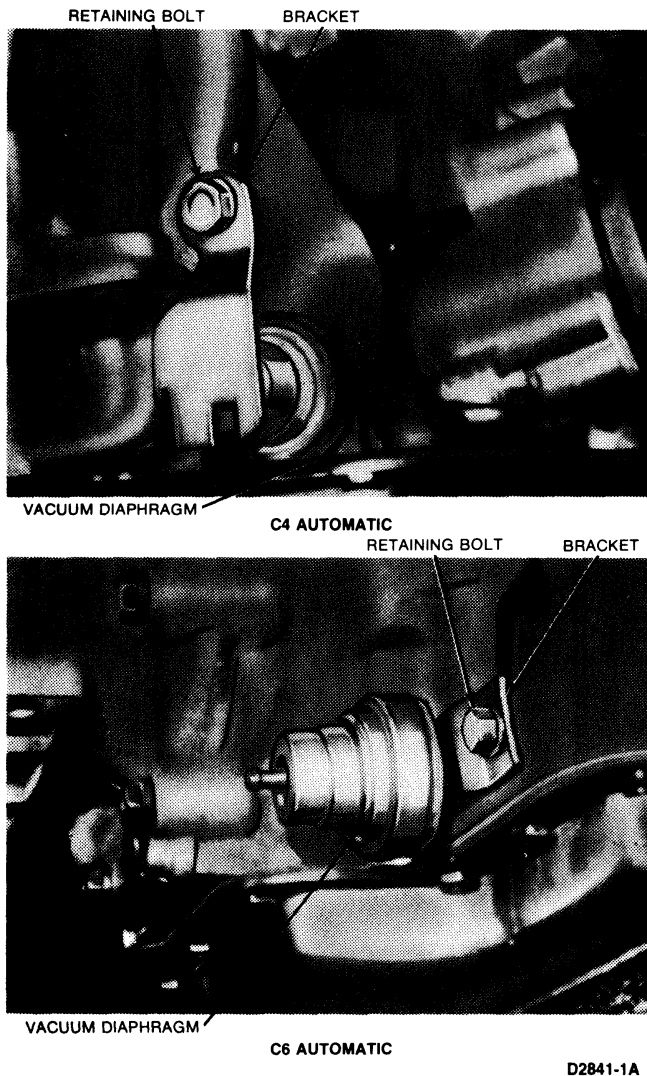

FIG. 14 Vacuum Diaphragm Installed—C-4 and C-6 Transmission
2. On C4 and C6 transmissions remove the vacuum unit retaining bracket bolt and bracket (Fig. 14). **Do not pry or bend the bracket.** Pull the vacuum unit from the transmission case.